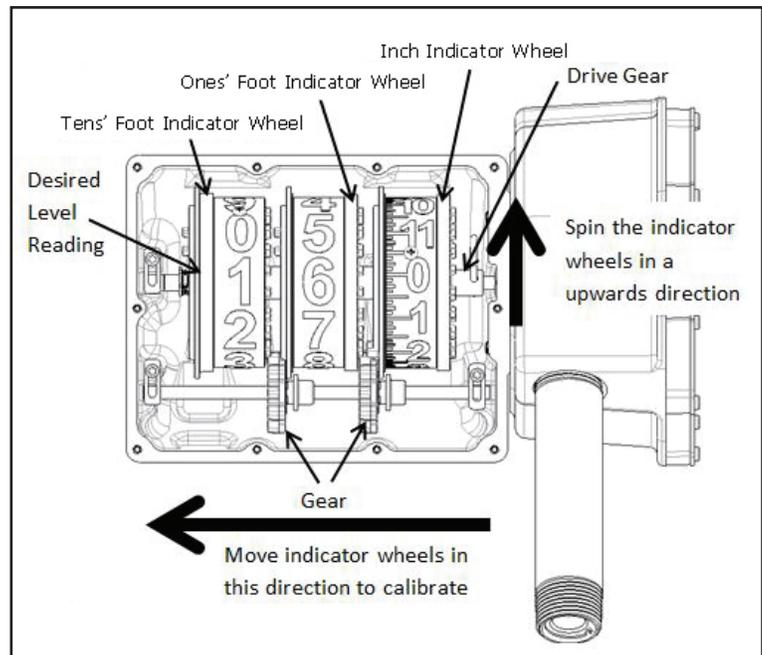

Figure 3
11. Now the gauge can be calibrated. Calibration is done one indicator wheel at a time. Start with the inch indicator wheel, grab the indicator wheel and push it to left to clear the drive gear. Now spin the wheel to the desired level and slowly let indicator wheel seat back into drive gear (See Figure 3). **Note desired level readings aligned as shown.**
12. Calibration for the foot reading is done in a similar manner pushing the indicator wheels to the left so they clear the gears, that are offset below the indicator wheels (See Figure 3). Spin the wheels in an upward direction. Calibrate the ones' foot indicator wheel first and the tens' foot indicator wheel last. **Note desired level readings need to be aligned as shown.**